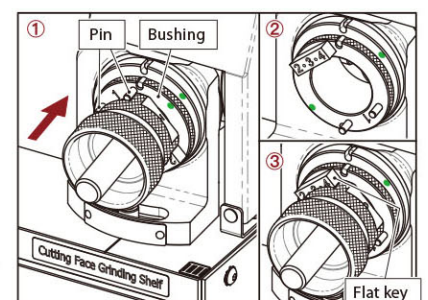

Fig. 10-3
3. 4 Flute Cutting Face Grinding (III) (Fig. 10-3)
- ① Insert the chuck set into the bushing on the Shelf (III), align Slot No.1 to the two pins where marked as No.1, push the chuck set gently until the grinding noise stops, then take the chuck set out.
- ② Turn the bushing to No.(2 · 3 · 4), align No.(2 · 3 · 4) to the pin on the shelf, then insert it to the end.
- ③ Insert the chuck set into the bushing, align Slot No.2 to the flat key where marked as No.(2 · 3 · 4), push the chuck set gently until the grinding noise stops. Turn the chuck set to grind the Slot No.3 and Slot No.4 in the same way.